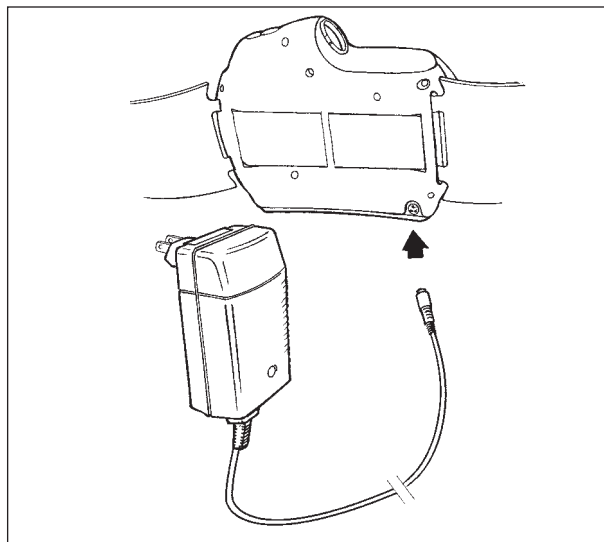

Figure 2:
- 1) Connect the charger output into the battery's charging socket (see Figure 2).